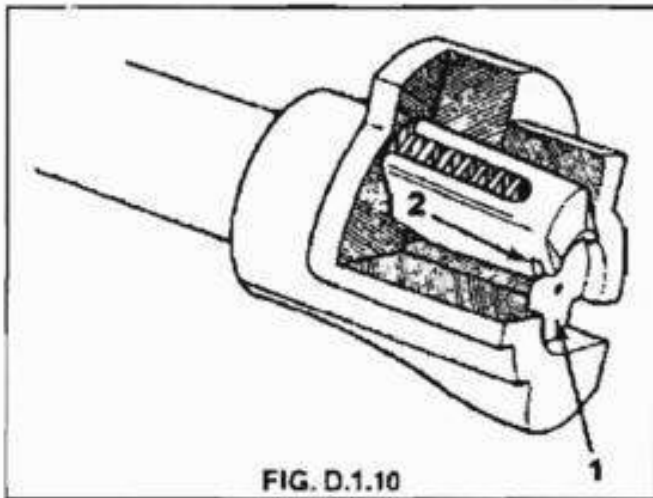

FIG. D.1.10
11. Ensure that gap between underside face of extractor lip is between 1.54 mm and 2.00 mm, by using extractor gap gauge. See Fig. D.1.10